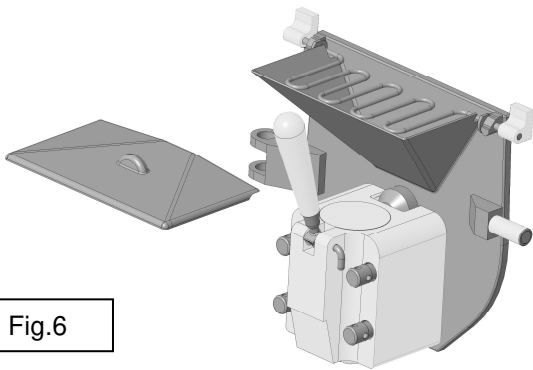

Fig.6
1. Remove the lid from the hopper (Fig.6).